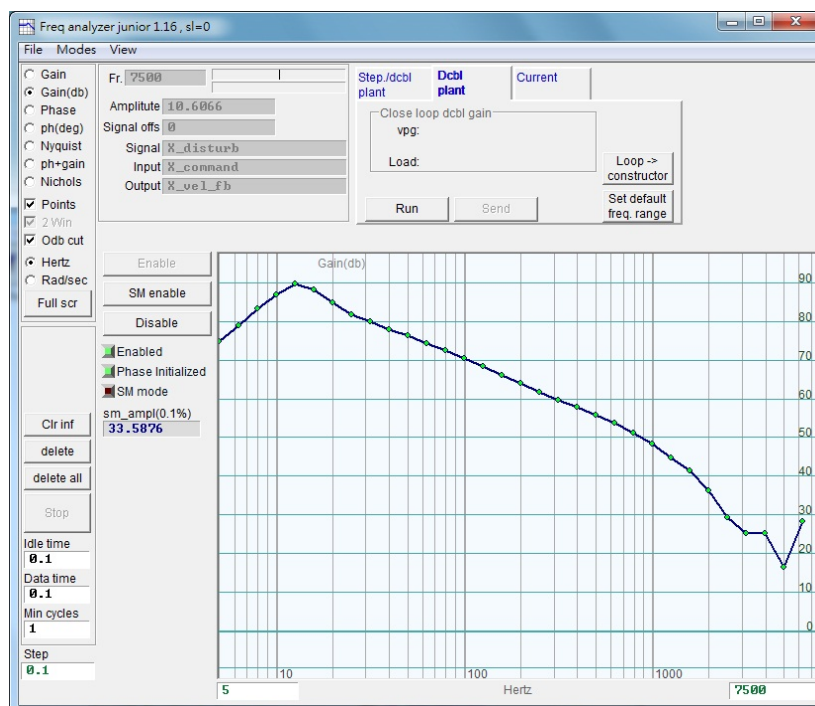

Figure 6.6.3.3
Step 4: Left click on the graph to show a reference line (-20dB). Move the reference line to the frequency response line, as figure 6.6.3.4. The gain will be recalculated and updated in the field of **vpg**. The gain is increased when the reference line is moved downward. The gain is decreased when the reference line is moved upward.